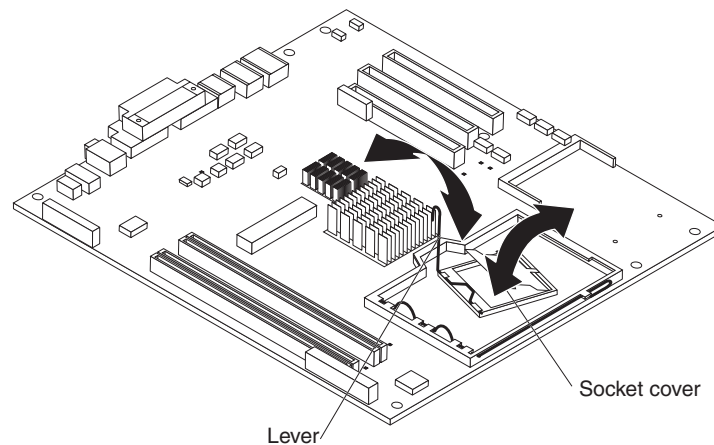

Figure 46. Opening the microprocessor socket
9. Release the microprocessor socket lever by pressing down on the end, moving it to the right, and slowly releasing it to the open (up) position (see Figure 46).